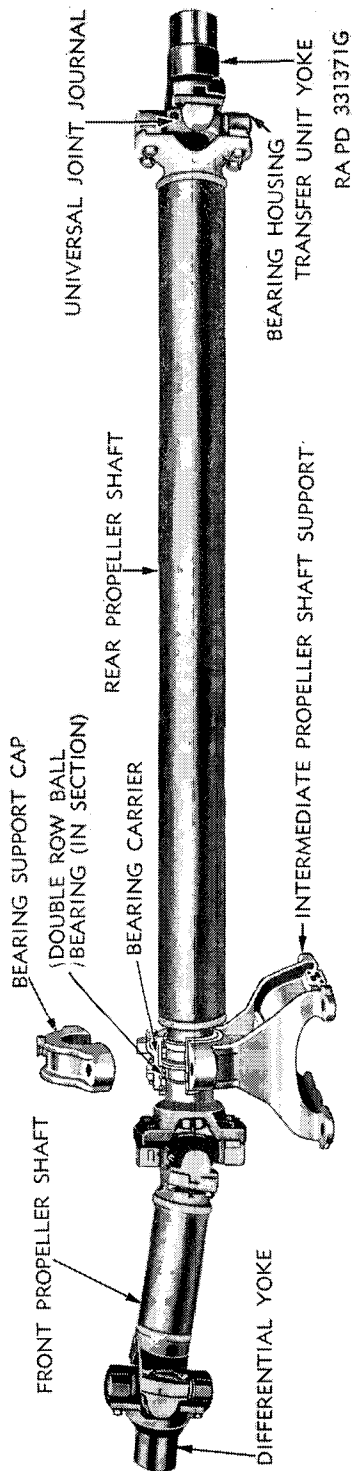

Figure 117. Main propeller shafts and mountings.
- (1) *Main propeller shafts.* The rear main propeller shaft has a yoke for a universal joint welded to the rear end and has a short splined shaft welded to the front end (fig. 117). The second universal joint yoke is carried on this splined shaft and held in place with a nut, washer, and cotter pin. The front main propeller shaft is provided with a yoke for the universal joints welded to each end. The rear yoke of the rearmost universal joint is splined to provide a sliding joint with the transfer unit main shaft; and the front yoke of the foremost universal joint is splined to provide a sliding joint with the differential pinion shaft.
- (3) *Support bearing.* The main propeller shafts are mounted at their junction on a bearing support bolted to the hull floor just behind and to the right of the driver's seat. The rear propeller shaft is carried in this support on a double row ball bearing mounted in the bearing carrier (fig. 117). Lubricating fittings are provided in the carrier for lubrication of the bearing and bushing.